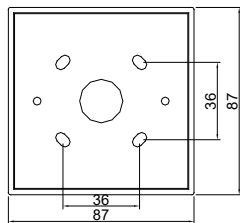
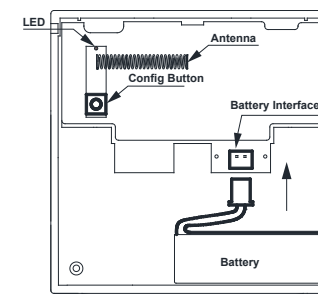

Fig. 1: Bottom dimensions
Fig. 2: Group configuration
NOTE: The unit is delivered separated from the base, ready for installation. If necessary, separate the front from the bottom by inserting the reset key and carefully pulling off the lower part of the front. If you remove the control element, the screws that hold the panel to the bottom will be exposed (see Fig. 2 ~ 4). Mount the bottom on the wall surface with fixing screws and possibly dowels. Fig. 1 shows measurements of the bottom mounting holes. Consider how you can insert the cable from the Bi-metal sensor before screwing the bottom, sometimes you may need to drill a small hole in the side of the bottom base for the cable.
5. To add a manual alarm button to the group, press and release the "Config" button on the back of the front panel of the manual alarm button twice within 2 seconds. The red LED flashes once to confirm the connection to the group (see Fig. 2).
To remove a manual alarm button from the group, press and release the "Config Button" 8 times within 5 s. The red LED will flash twice to confirm removal from the group. (see Fig. 2).